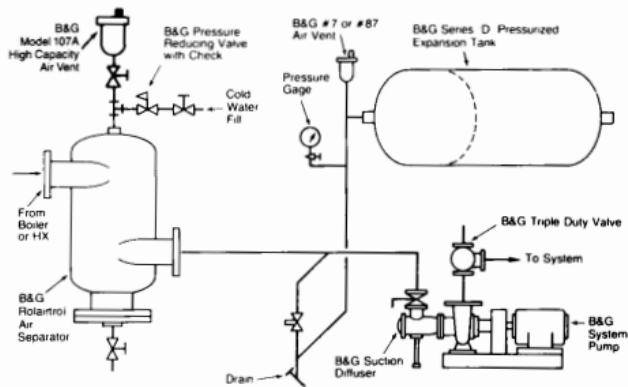

FIG. 3
5. Reverse the procedure in (4) above to install a new lever and button assembly. If the seat yoke has two sets of holes install the lever in the smaller off center holes. (See Figure 3.)